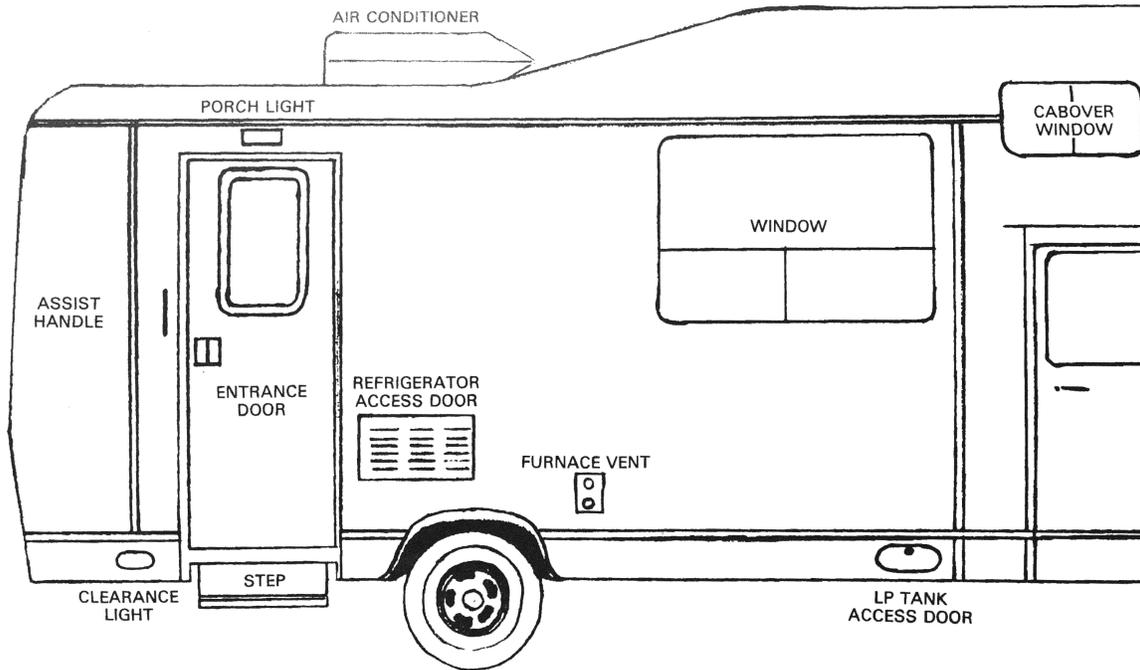

FIGURE 2
- a. Ford Chassis — The MotorCoach is equipped with a standard gas tank with a capacity of 24.6 gallons and an optional auxiliary tank with a capacity of 18 gallons for a total capacity of 42.6 gallons. (See Fig. 2 for location.)